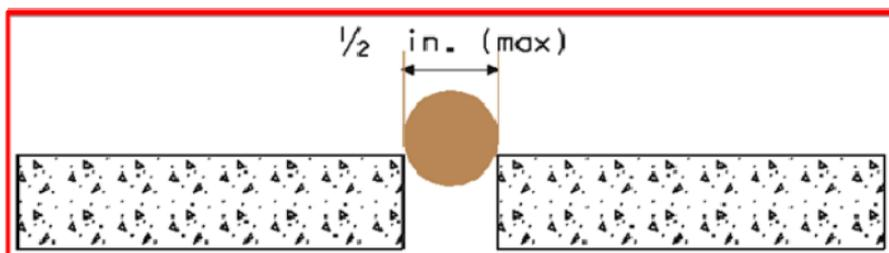

Figure 4. Surface Openings
- On pedestrian access route joints and gratings, surface openings must not permit passage of a sphere larger than 1/2 inch. Place horizontal surface openings so that the long dimension is perpendicular to the dominant direction of travel. (See Figure 4.)